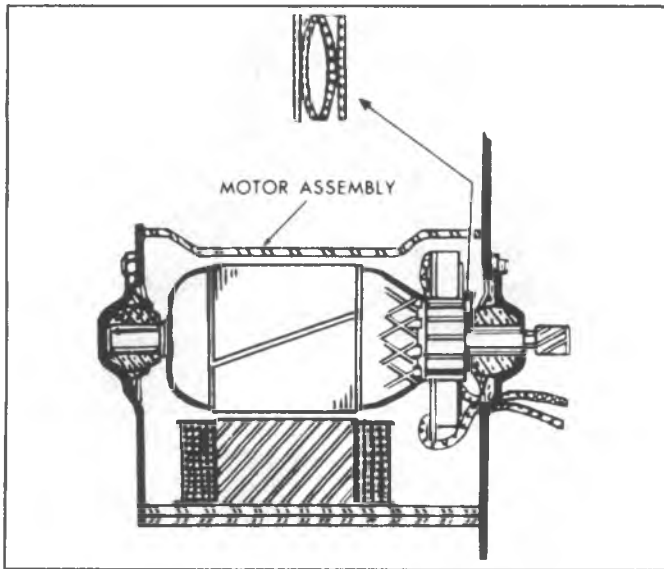

Fig. 8C-35--End Play Wave Washer Installation
3. Remove brush spring tension (fig. 8C-34), slide armature and end plate from motor frame. Pull end plate from armature.